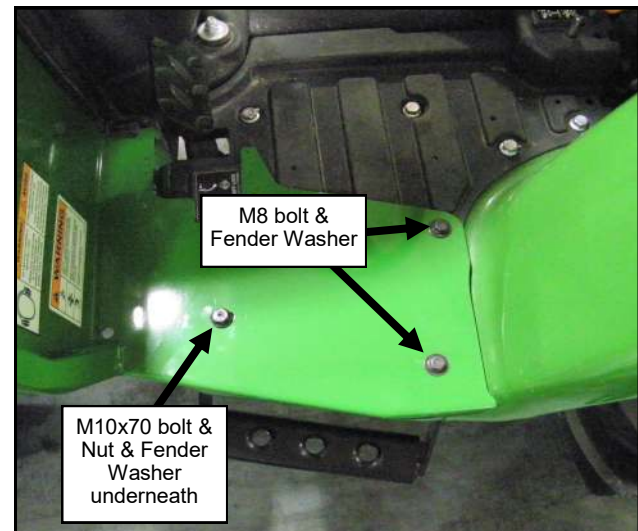

Fig. 5.1 (Loosely attach the left A-Pillar)
- 5.1** With a helper, set the left A-pillar onto the floor mat and loosely bolt it down. See figure 5.1. The bolts will be tightened at a later step once the rest of the cab has been assembled.